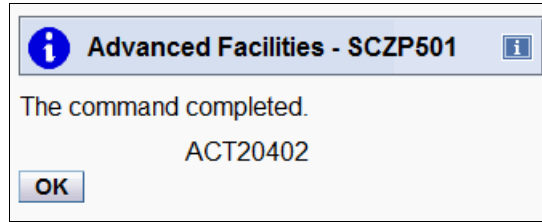

Figure 14-85 OSA Advanced Facilities: source validation success
2. If no error is found, a panel opens (Figure 14-85). Click **OK**, and then click **Cancel**.